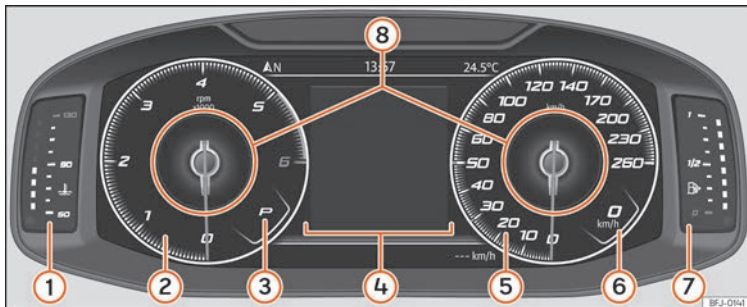

Fig. 107 SEAT Digital Cockpit on the instrument panel (classic view).
In *Classic View* and *Semicircular watches* it is possible to customise the information displayed under **Information Profiles** »» **Fig. 107** ⑧.
»» Fig. 107.